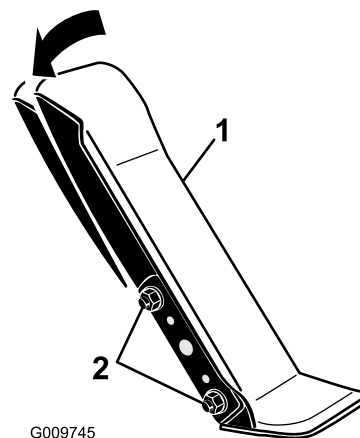

Figure 103
1. Loosen the 2 nuts and bolts securing the left side of the traction pedal to the bracket (Figure 103).
2. Pivot the pedal to the desired operating angle and tighten the nuts (Figure 103).